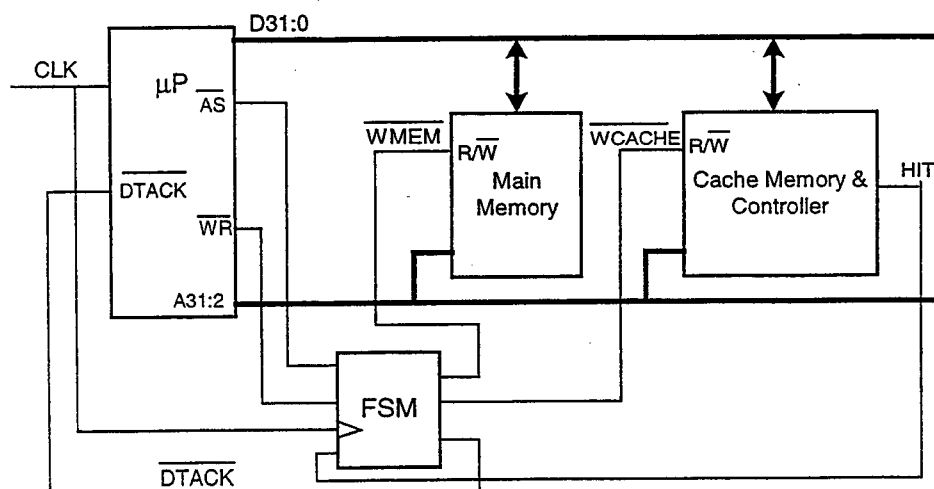
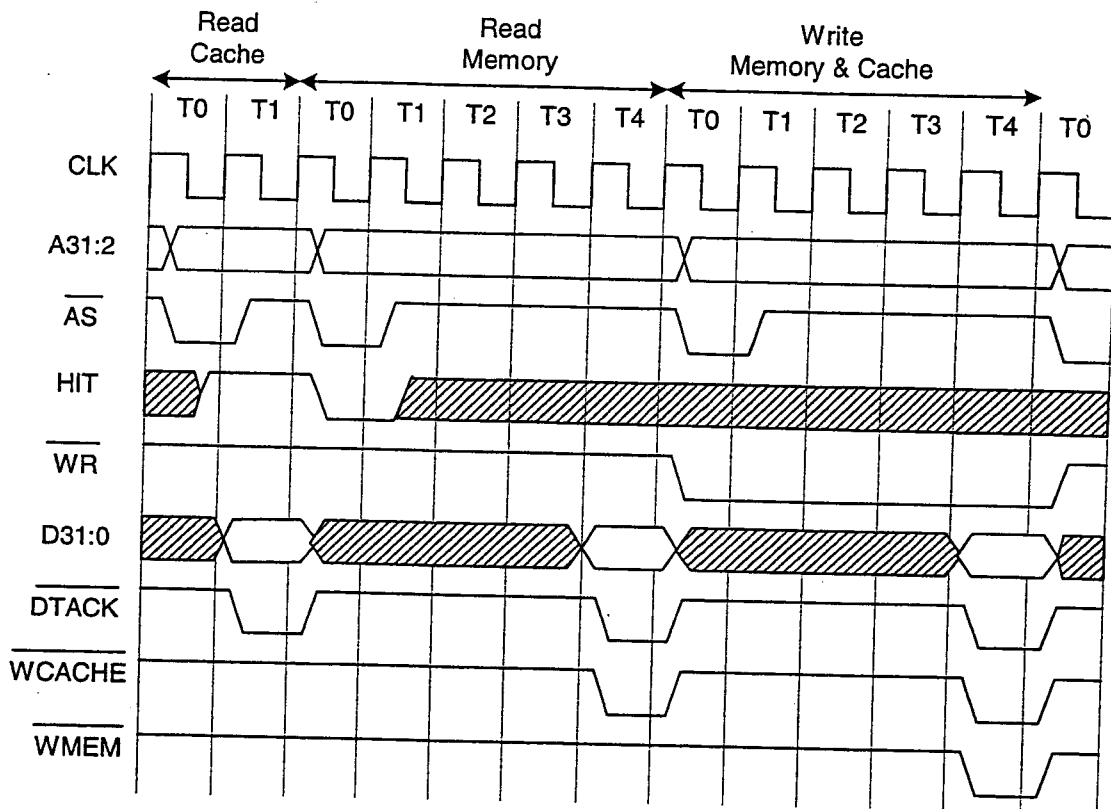

Figure 6.1
Figure 6.2
6. In a 32-bit microprocessor system shown in *Figure 6.1*, a 1K x 32 bit cache memory is used to increase the effective speed of the main memory. The operation of the microprocessor and the memory interface circuit is controlled by the clock signal CLK . *Figure 6.2* shows the timing diagram during three different types of memory accesses.